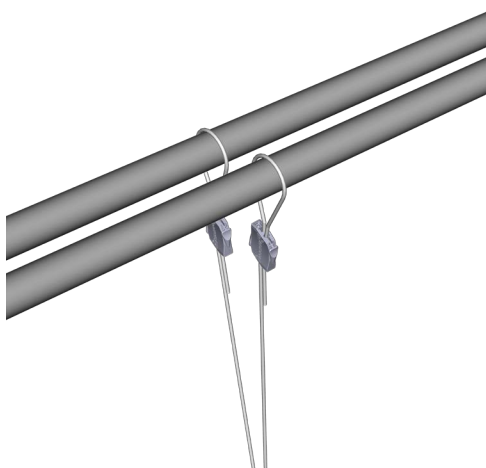

Figure 1c.
3. Repeat steps 1 and 2 for both the primary and secondary suspension cables (Figure 1c).